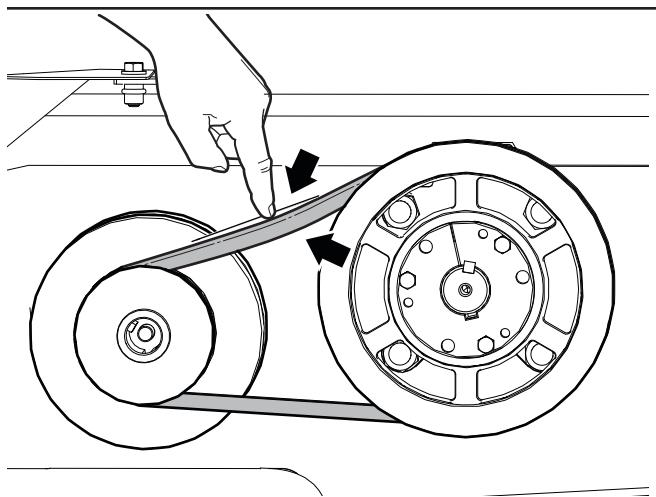

Figure 39—Check the drive belt tension
1. Press on the top centre of the rotor drive belt and measure the distance it moves. See *Figure 39* on page 59.